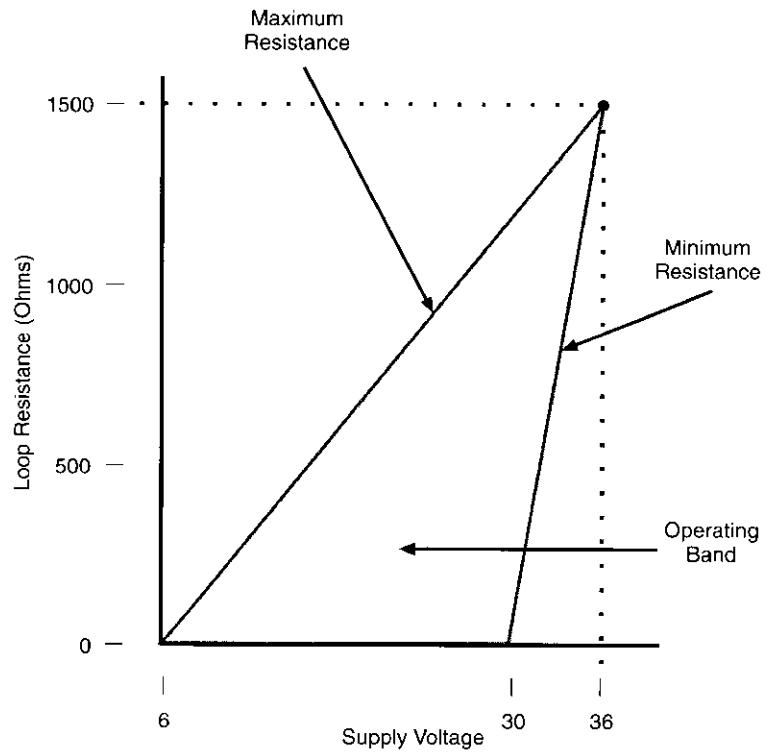

FIGURE 5. Loop resistance curve.
When designing a control system one must determine the system's loop resistance and operate within a specific band defined by the transmitter's maximum/minimum supply voltage (Figure 5). The following details the methodology to be followed:
(3) Plotting the Curve: The loop resistance curve in Figure 5 is plotted as follows: